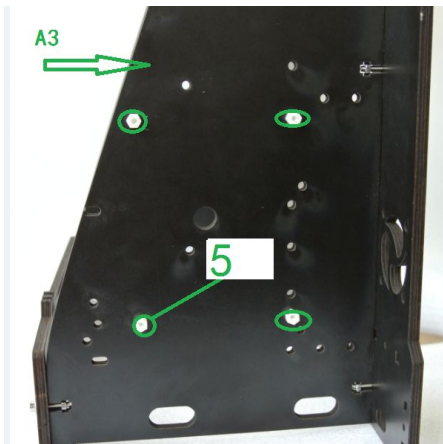

Figure 8.1
As shown in figure 8.1 and figure 8.2, insert the four support columns of motherboard into the A3 board on the left side of main framework with 4 pieces of ⑤ screws. Then follow figure 8.3, press motherboard ②③ with its holes in alignment with the 4 columns and pay attention to the installation direction.